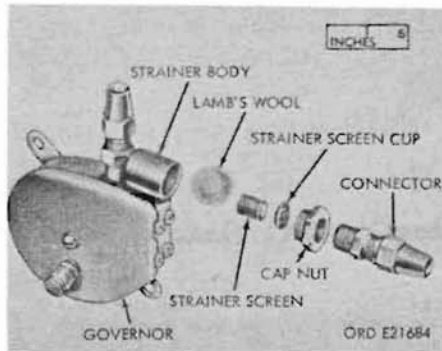

Figure 242. O-1 air governor - showing air strainer disassembled
a. Air Governor Type O-1 (Fig. 242).